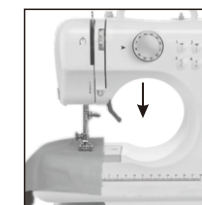

Fig.8
3. Lower the presser foot (Fig. 8)